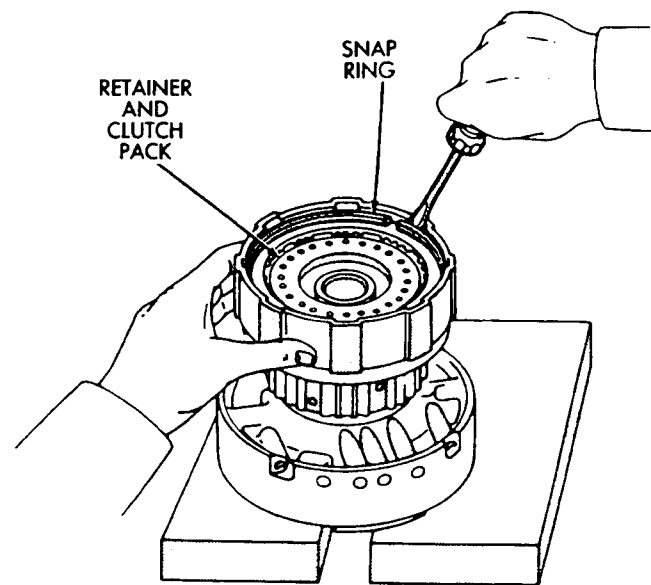

Fig. 4 Removing Retainer And Clutch Pack
- (5) Apply compressed air through right side feed hole in support and note piston stroke length on dial indicator.
- (6) Stroke length should be: 3.73 to 4.59 mm (.1469 to .1807 in) on 6-cyl. transmissions and 3.42 to 4.23 mm (.1346 to .1665 in) on 4-cyl. transmissions.
- (7) Replace clutch discs if stroke length is incorrect.
- (8) Remove clutch pack snap ring and remove retainer and clutch pack (Fig. 4).